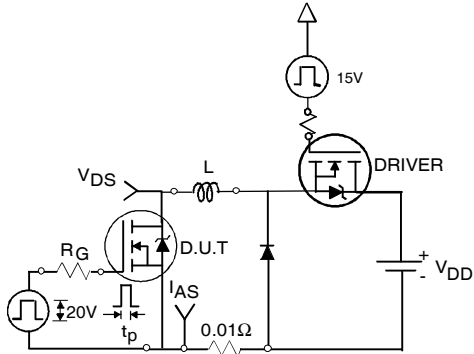

Fig 12a. Unclamped Inductive Test Circuit
- ③ $I_{SD} \leq 125A, di/dt \leq 260A/\mu s, V_{DD} \leq V_{(BR)DSS}, T_J \leq 175^\circ\text{C}$
- ④ Pulse width $\leq 400\mu s$; duty cycle $\leq 2\%$.
- ⑤ $C_{oss\ eff.}$ is a fixed capacitance that gives the same charging time as C_{oss} while V_{DS} is rising from 0 to 80% V_{DSS} .
- ⑥ Calculated continuous current based on maximum allowable junction temperature. Package limitation current is 90A.
- ⑦ Limited by T_{Jmax} , see Fig.12a, 12b, 15, 16 for typical repetitive avalanche performance.
3. Equation below based on circuit and waveforms shown in Figures 12a, 12b.